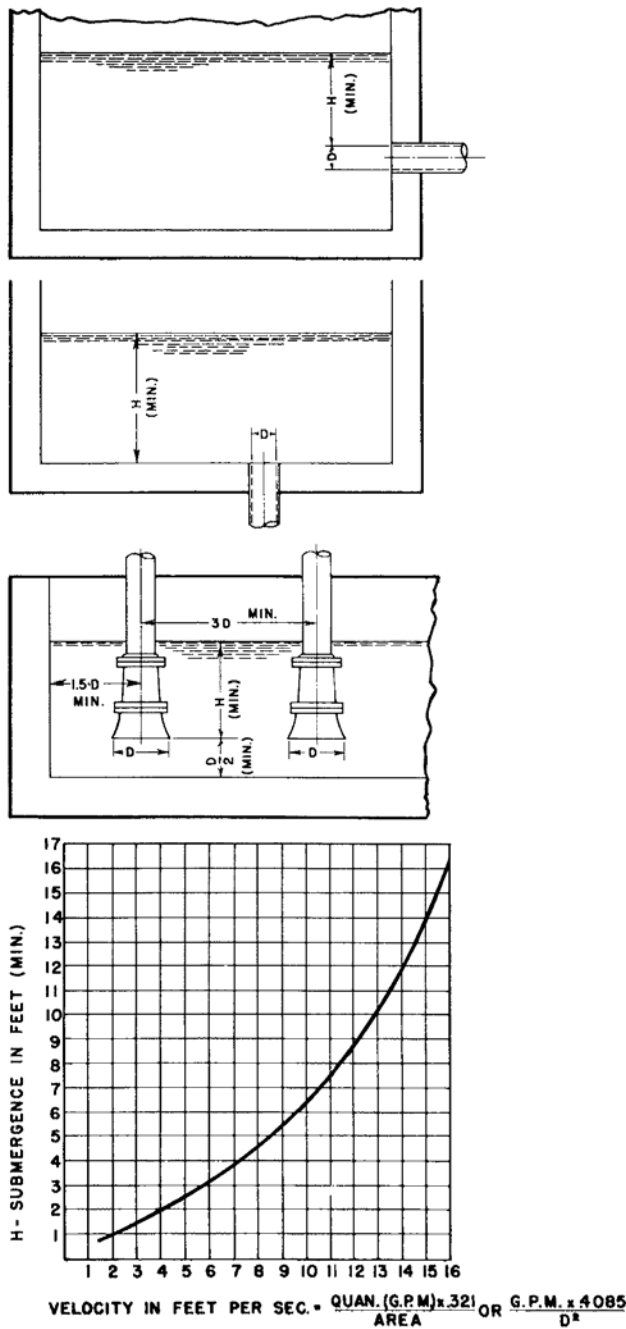

Figure 8: Pipe submergence and entrance calculation
- The suction pipe should always be submerged into the source of supply as shown in Figure 8: Pipe submergence and entrance calculation on page 18.
- d) The suction pipe should be below the liquid surface at the source of supply as shown in Figure 8: Pipe submergence and entrance calculation on page 18.